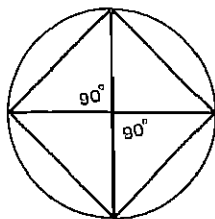

FIG. 24. INSCRIBED SQUARE
**I.** If the children are asked to find out how to draw a square in a circle, they will find it a difficult problem. If they are given the instructions, "Draw 2 diameters at right angles to one another. Join the ends of these 2 diameters. Say what figure you have made," they will draw, and say, "A square." If the teacher now asks, "How do you know it is a square?" the class is on the way to deductive reasoning. By suitable guidance the children can build up a proof that, in the triangles formed, the sides are equal and the angles right angles, Fig. 24.